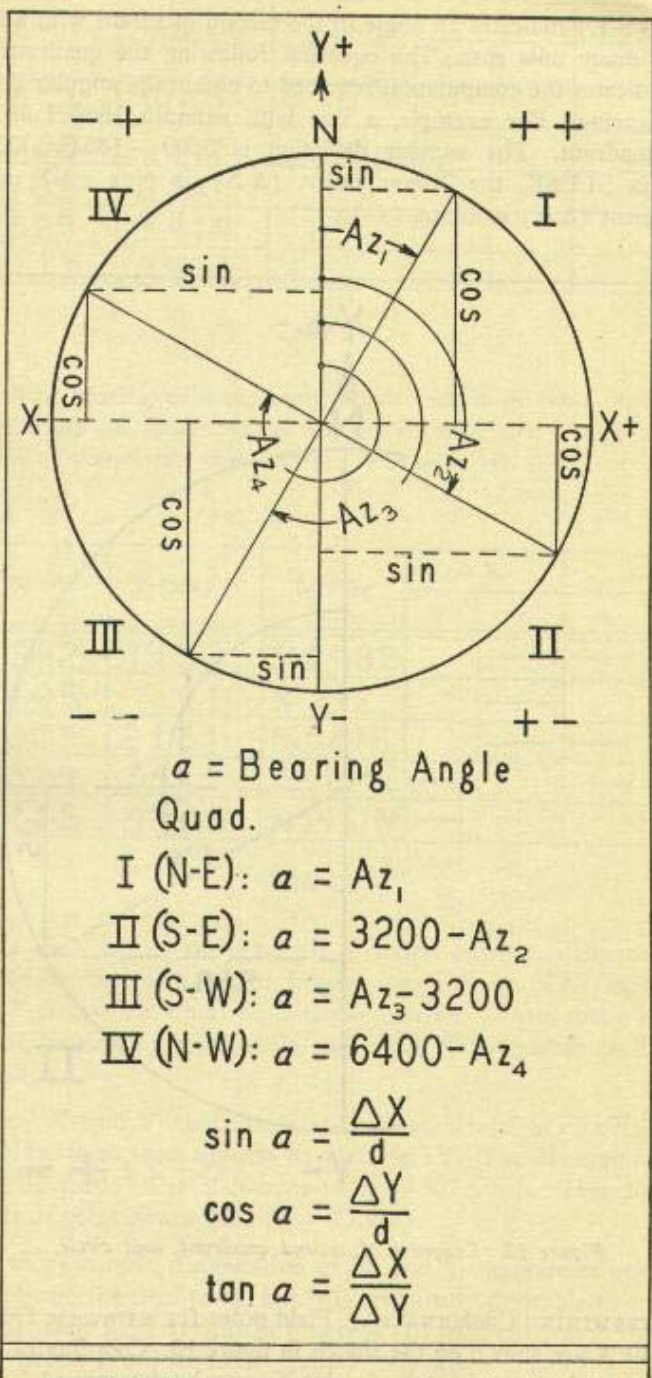
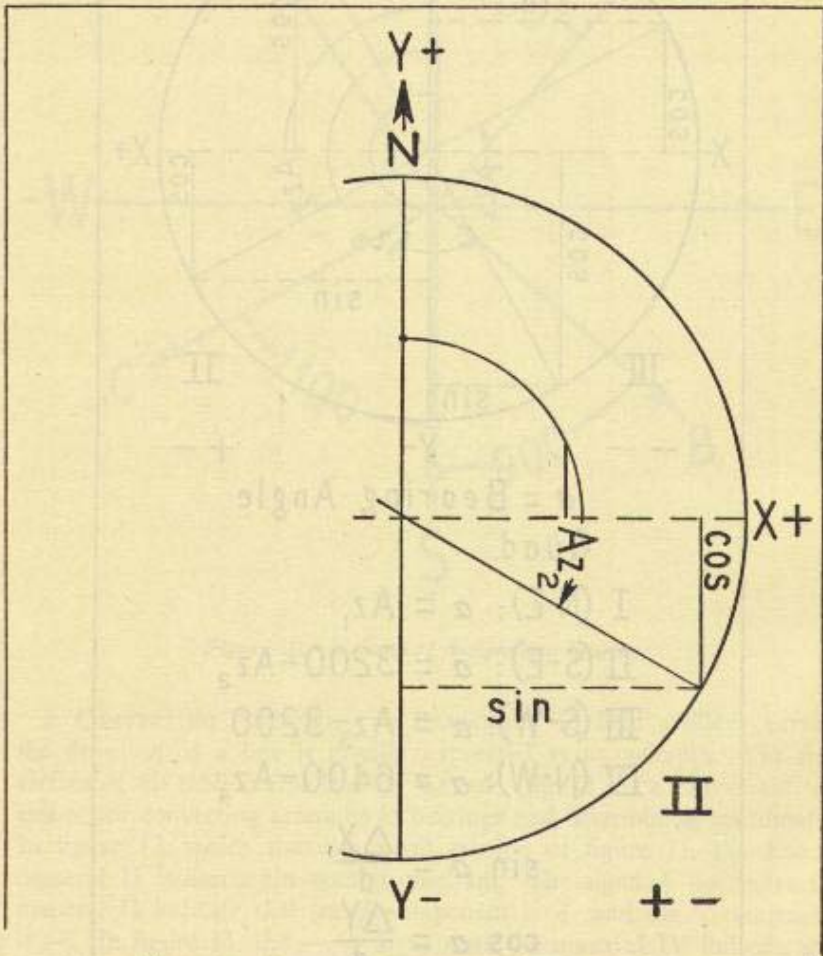

Figure 11. Unit-circle diagram for converting azimuths to bearings (from table on reverse of rule).
Figure 12. Diagram of second quadrant, unit circle.
*b. CONVERTING AZIMUTHS TO BEARINGS.* In field artillery survey, the direction of a line is usually expressed as an azimuth. The first section of the table on the back of the rule (fig. 11) is a convenient reference for converting azimuths to bearings and determining coordinates. In figure 12, which shows a small portion of figure 11, the Roman numeral II indicates the second quadrant. The signs + — under the numeral II indicate that the X-component is + and the Y-component is —. In figure 11, the — + signs over the numeral IV indicate that the X-component is — and the Y-component is +. The solid line with *cos* printed alongside indicates that the Y-component is equal to the distance multiplied by the cosine of the bearing. The dotted line with *sin* printed underneath indicates that the X-component is equal to the distance multiplied by the sine of the bearing. There are four equations under the diagram in figure 11. Under the abbreviation *Quad*, the quadrant designations are given by number and by compass direction.
(1) When  $\Delta X$  is less than  $\Delta Y$ , the bearing is less than 800 mils. For this case, the relation  $\tan \alpha = \Delta X / \Delta Y$  (fig. 11) is used. Dividing this equation by  $\Delta X$  results in the following proportion: